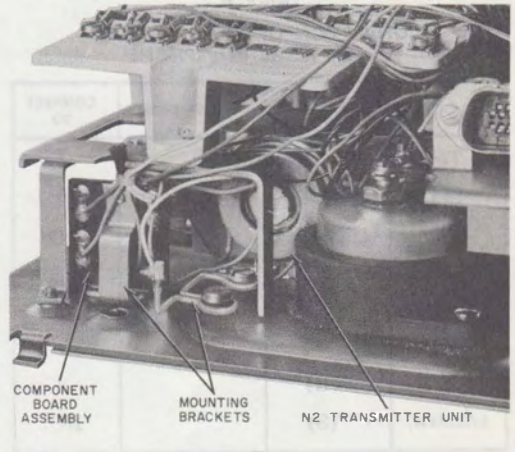

Fig. 1—664B Transmitter, Installed
1.03 Operation with the 1A home interphone system requires installation of a 664B transmitter, ordered separately (Fig. 1).
3.02 Maintenance of the home interphone components of these sets (Fig. 1) is limited to replacement of defective units.